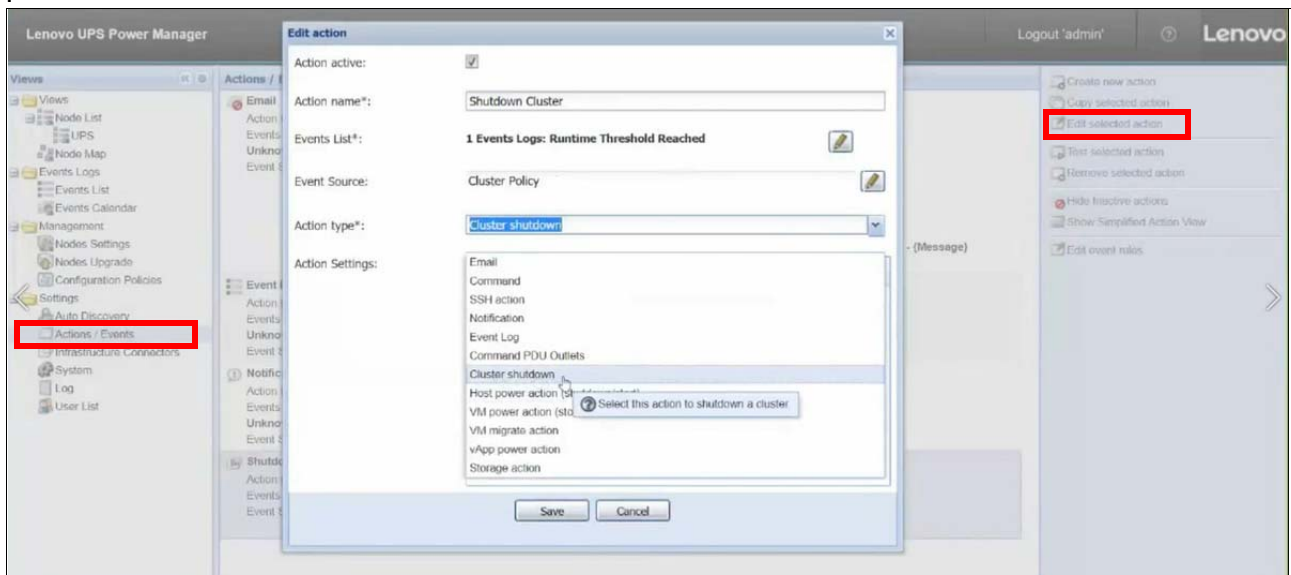
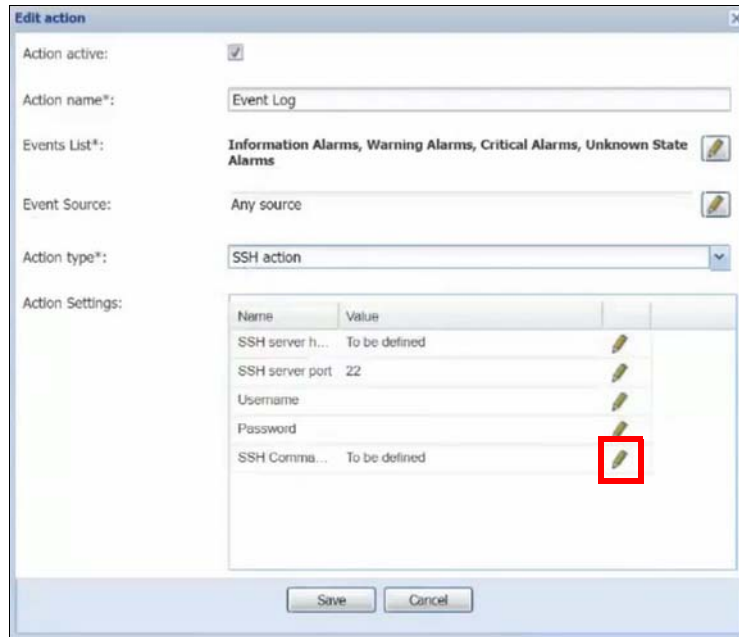

Figure 49 Edit an action
Figure 50 Create new action - SSH command/script
To edit an action click the **Settings > Actions / Events** menu on the left hand side, click on and highlight the action from the main screen, then select **Edit selected action** as shown in Figure 49. You can then select an action from the Action type field.
1. in the Edit action dialog in Figure 49, click **SSH action** from the Action type field. The SSH settings are then displayed in the Action Settings portion of the window, as shown in Figure 50.
2. Click the Pencil icon to the right of the **SSH Command** field to define a script, as shown in Figure 50.